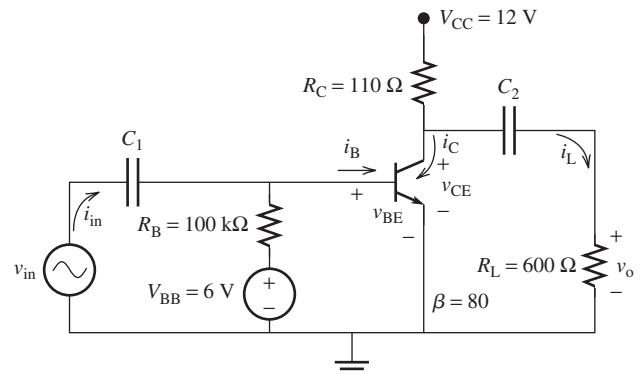

FIGURE P8.46 Biased transistor circuit.
- 8.46** (B) Find the equivalent AC circuit for the one shown in Figure P8.46.